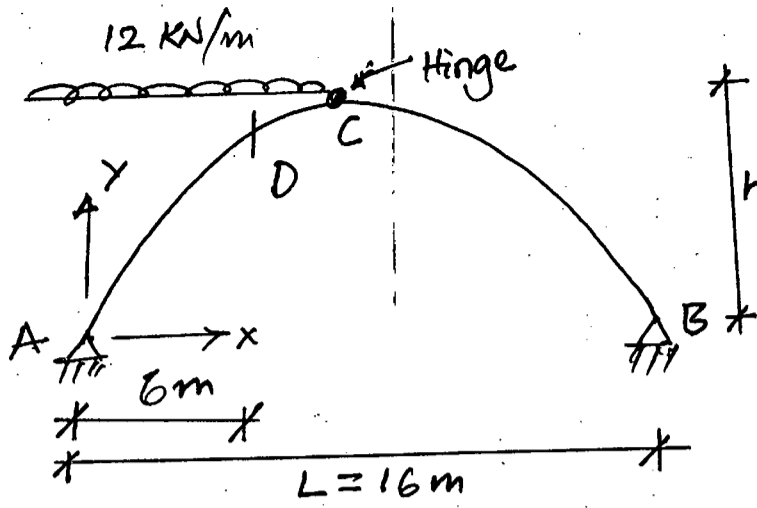

Figure 8
- (b) The span and rise of an arch are 16 m and 4 m, respectively. The equation of the three-hinged parabolic arch is $y = 4h*(Lx - x^2)/L^2$ with the origin at the left support and x-axis directed towards the right and y-axis upwards. A uniformly distributed load of 12 kN/m is applied on the left half of the arch as shown in Figure 8. Calculate the values of normal force, shear force and bending moment at the point D which is located at a distance 6 m from the left support. **(22 2/3)**